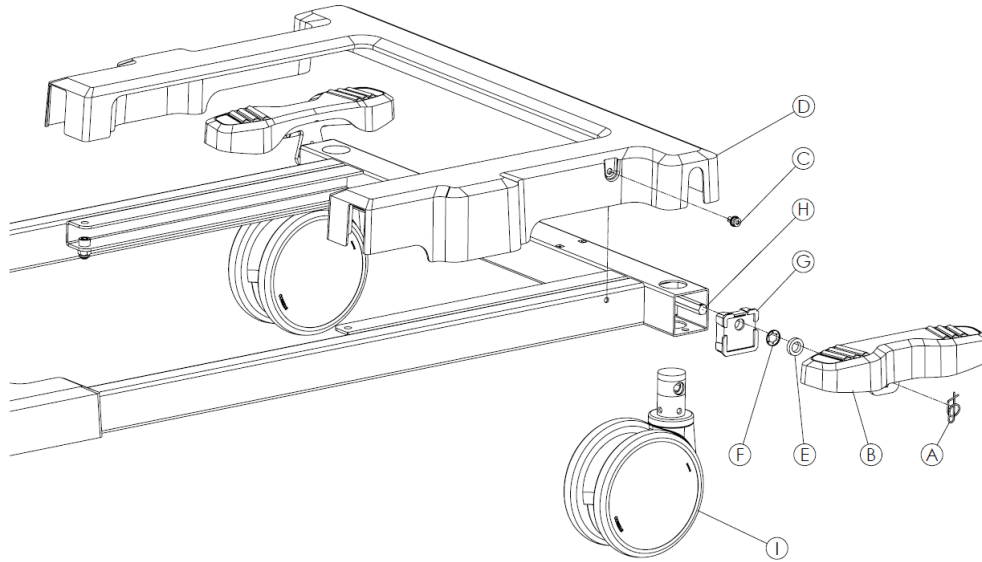

Figure 14 – Non-steer caster
4. Using a T25 Torx wrench, remove the cover screws (C). Remove the cover (D). Discard the cover screws (Figure 14).
5. Using needle nose pliers, remove the rue ring cotter pin (A) from the hex shaft. Discard the rue ring cotter pin.
6. Pull the brake pedal (B) off the hex shaft. Set aside.
7. Remove the plastic washer (E) that is on the hex shaft. Discard the plastic washer.
8. Using diagonal pliers, cut the starlock retainer (F) that is on the hex shaft. Discard the starlock retainer.